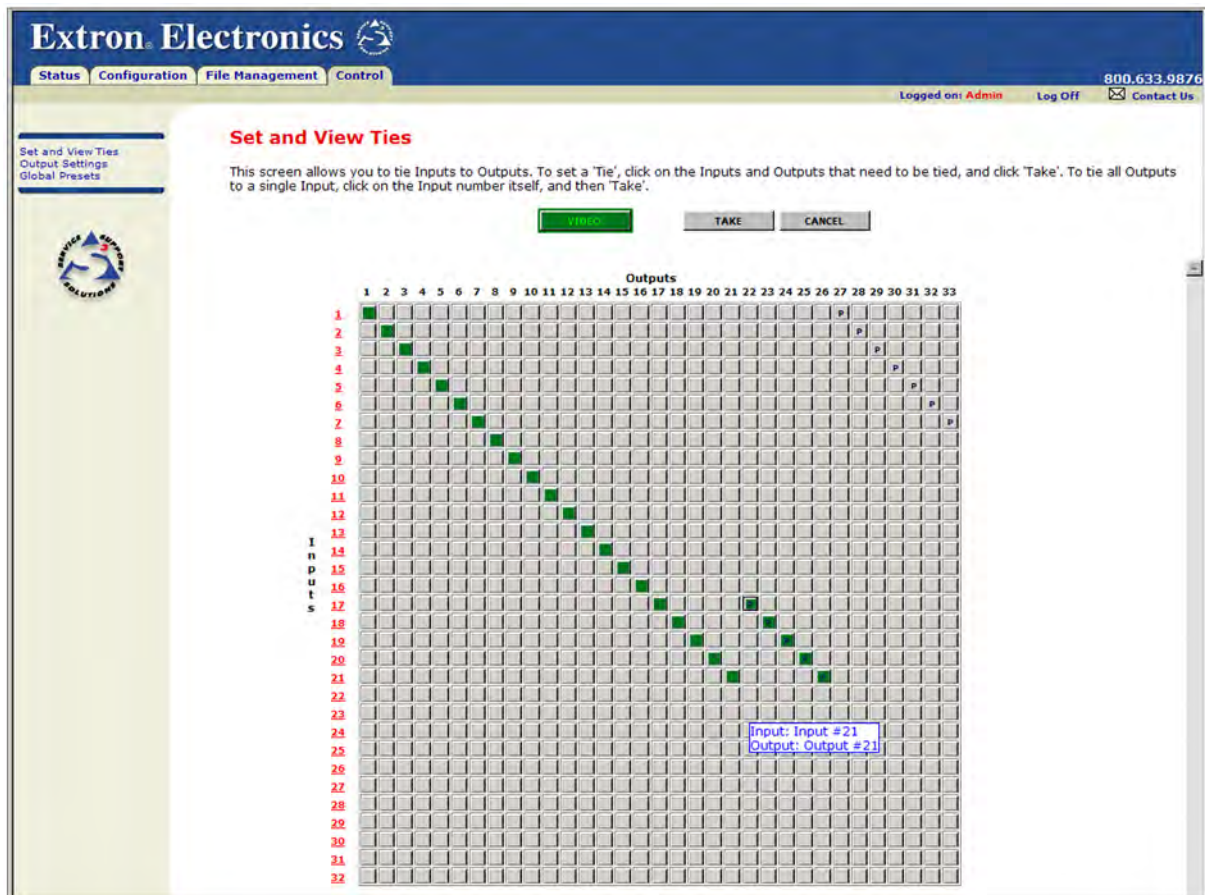

Figure 105. Set and View Ties Page
You can create ties on the Set and View Ties page (see figure 105). Access the Set and View Ties page by selecting the **Control** tab.
- If you lose track of the input and output associated with a specific button, let the mouse rest over one of the tie buttons for a moment. A field pops up (see figure 105) that identifies the input and output for that button.